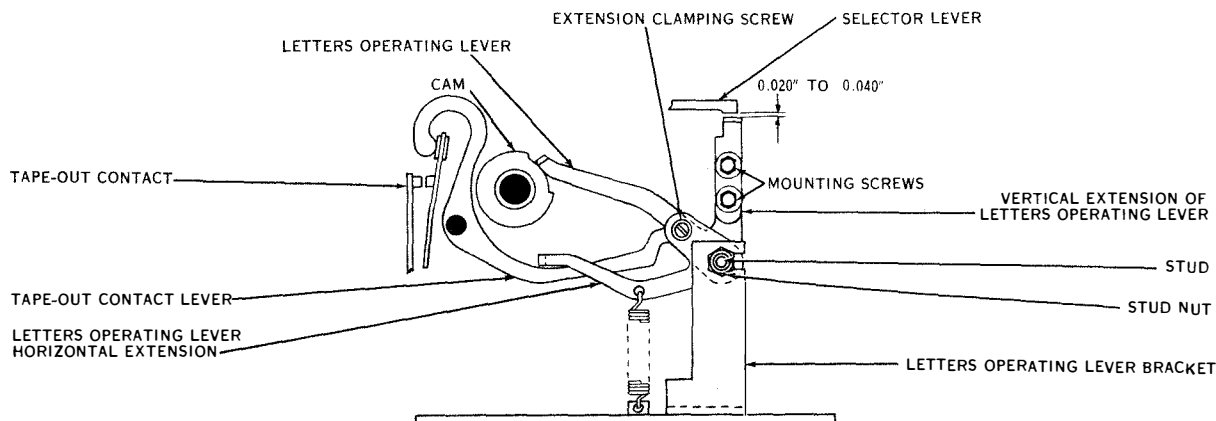

Figure 7-104. Letters Operating Lever Vertical Extension
(43) LETTERS OPERATING LEVER VERTICAL EXTENSION. (See figure 7-104.)—Rotate the transmitting cam sleeve until all selector lever pins are in their selected (uppermost) position and the letters operating lever horizontal extension is on the low part of its cam. Under this condition there should be 0.020-inch to 0.040-inch clearance between the underside of the horizontal member of the selector levers and the top surface of the letters operating lever vertical extension.